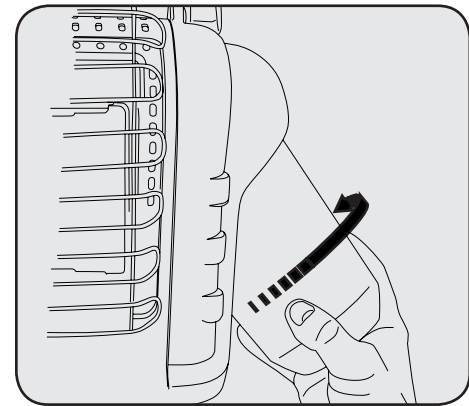

Figure 2
2. Swivel regulator outward for easy tank installation. Screw 1 lb. disposable LP-gas supply cylinder clockwise (from bottom) into portable heater until hand-tight. See Figure 2. Do not use thread sealant on this connection.